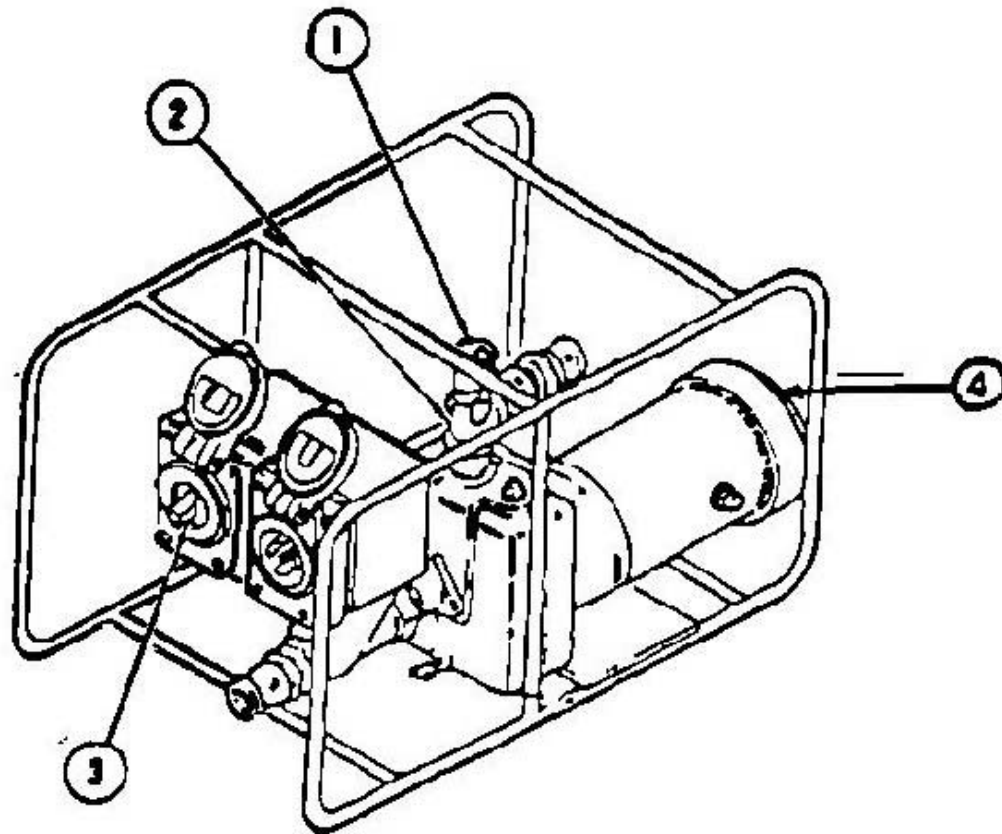

Figure 3-31
- a. Wait 2 minute for pressure to build up inside air tank assembly (1) and check air tank gauge (3) for an indication of 60 to 80 PSI (414 to 552 KPA).
- b. Open drain valve (2) to bleed condensation from air tank.
3. Prepare the water pump for use. (See Figure 3-31)